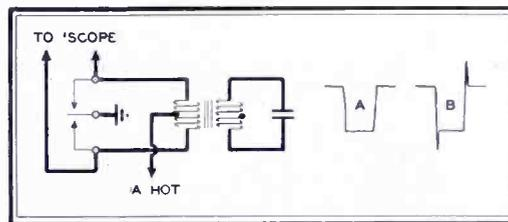

FIG. 4. THE OSCILLOSCOPE CONNECTIONS USED TO CHECK THE VOLTAGE WAVE OF A VIBRATOR
**TEST NO. 4:** To check the voltage wave, connect the oscilloscope as in Fig. 4. If the conditions are normal, the presentation will be similar to wave A when the radio equipment is switched on, with very little change after the tubes are warm and the full load is applied. Wave B is an indication that the vibrator is worn, or that the buffer does not have sufficient capacity.